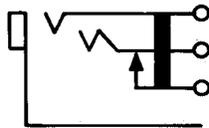

Fig. 1—300A Jack
**2.01 300A:** This single-mounted jack (Fig. 1) is used with the 310 plug. This jack is heavily insulated and should be mounted with springs in a vertical plane.